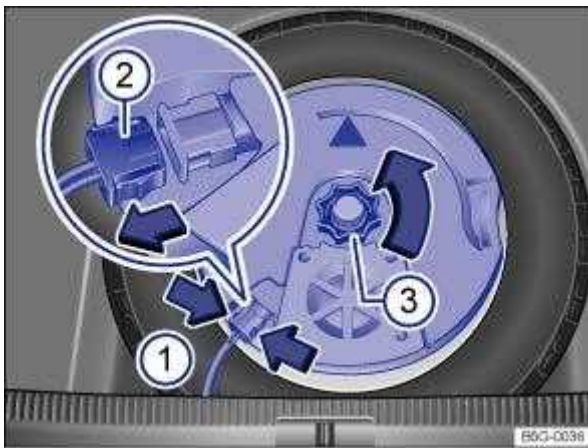

Fig. 142 In the luggage compartment: removing subwoofer (type 1).
To release the connector ⇒ Fig. 142② , press the lugs together ⇒ Fig. 142 (arrow ①).
Pull off the connector ⇒ Fig. 142② in the direction of the arrow and place the disconnected the electrical cable to one side.
Unscrew handwheel ⇒ Fig. 142③ in direction of arrow.
Plug in connector ⇒ Fig. 142 ② until it audibly engages.
Screw the handwheel ⇒ Fig. 142 ③ onto the threaded pin in the opposite direction to the arrow until the subwoofer is properly secured.